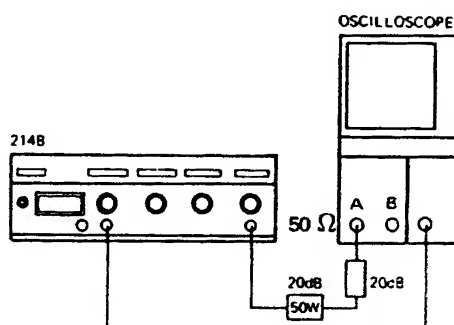

Figure 5-4
1. Connect equipment as shown in Figure 5-4 and set 214B controls as follows: